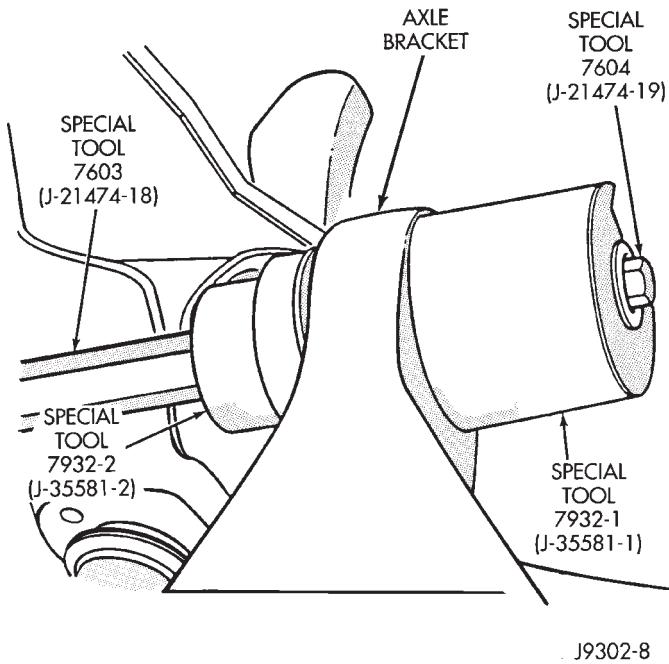

Fig. 5 Axle Bracket Bushing Installation
(5) Position the new bushing on Installer.
(6) Install the bushing by tightening the hex-head on Long Nut (Fig. 5). Remove Spacer 7932-3 (J-35581-3).
(7) Install the upper suspension arm to axle. Refer to Upper Suspension Arm Installation in this Group.